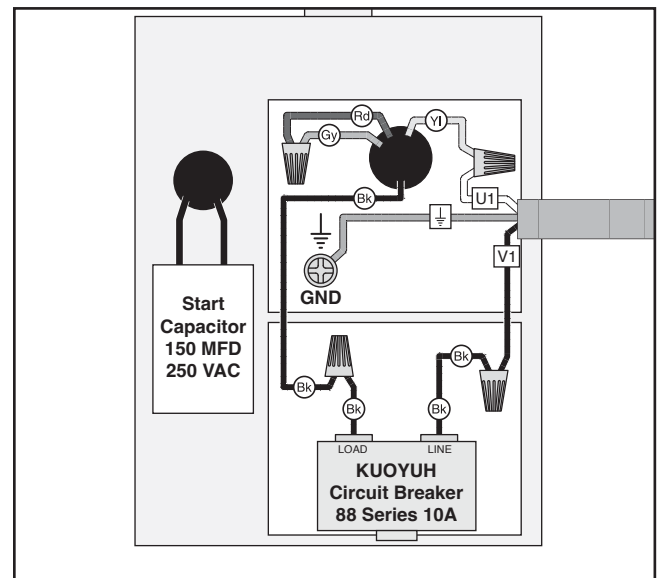

Figure 11. Main motor wired for 230V.
6. Twist red and gray wires together, and secure with a wire nut (see **Figure 11**).
7. Twist U1 and yellow wires together and secure with wire nut (see **Figure 11**).
8. Twist two remaining loose black wires together and secure with wire nut (see **Figure 11**).